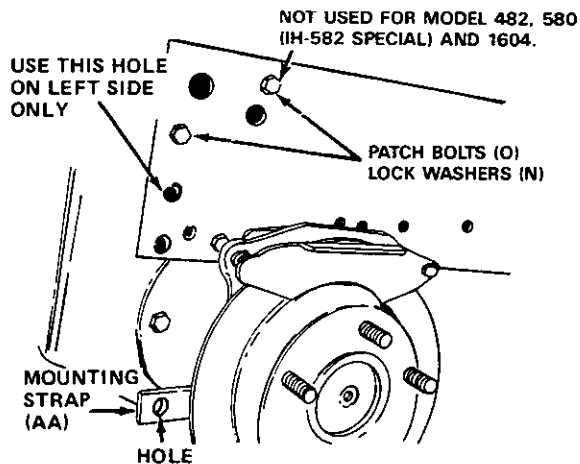

FIGURE 15
Figure 15 is shown with wheel removed for clarity only.
13. The three point hitch plate mounts to the inside of the tractor frame. Secure the three point hitch plate to the right side of the tractor frame using two 3/4" long hex bolts (O) and lock washers (N) in the top two holes only at this point as shown in figure 15. For models 482, 580 (IH-582) and 1604 tractors, use only the middle bolt position. See figure 15.
14. Secure the three point hitch plate to the left side of the tractor frame using only the top three holes at this point. Use three 3/4" long hex bolts (O) and 3/8" lock washers (N). See figure 15.